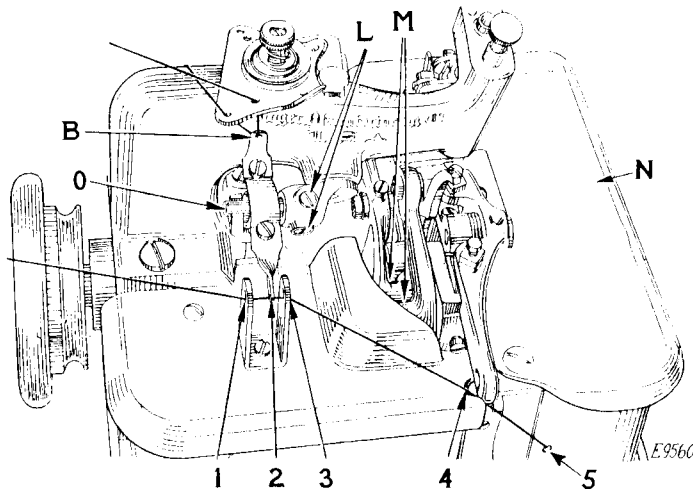

FIG. 43
A variation in the amount of needle bar stroke can be obtained by adjusting the ball stud (O, Fig. 43). To lengthen the stroke, loosen the two set screws (L, Fig. 43) in the needle bar crank and move the ball stud inwardly or toward the crank. To shorten the stroke of the needle bar, move the ball stud outwardly or away from the crank, then securely tighten the set screws (L).